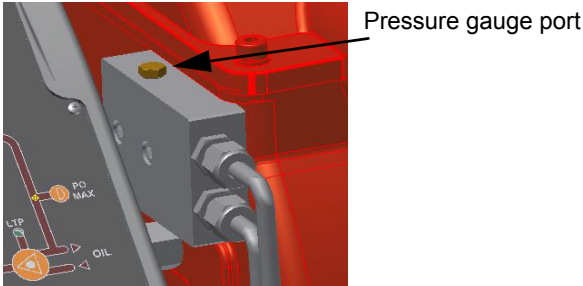

Fig. 9
- 6 the nozzle supply pressure is already factory-set and must not be changed. Only if necessary, adjust the supply pressure as follows (see related paragraph); insert a pressure gauge into the port shown on Fig. 9 and act on the pump adjusting screw **VR** (see Fig. 38) as to get the nozzle pressure at 20bar (Monarch or Fluidics nozzles - see page 40).